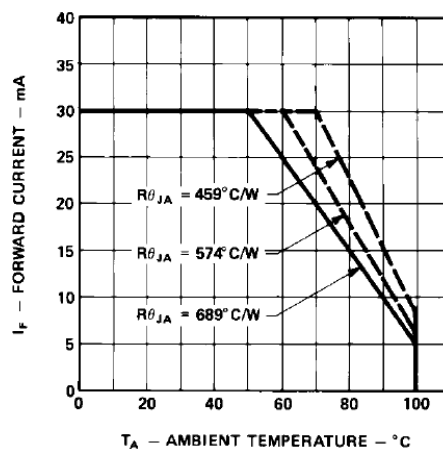

Figure 4. Maximum forward dc current vs. ambient temperature.
2. Derate linearly as shown in Figure 4.